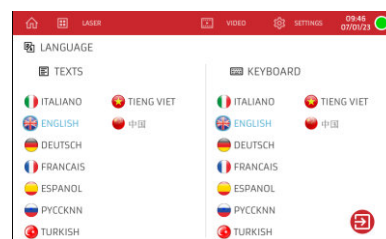

Fig. 8-3 – Language page
- 1 This page (Fig. 8-3) allows the operator to set the language of all texts on the pages and on the alphanumeric keyboard for data input.